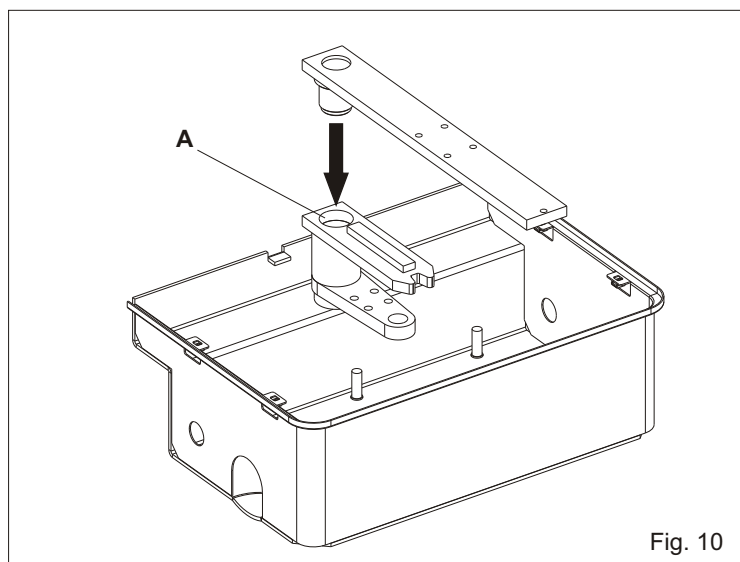

Fig. 10
2.6. Grease plentifully the hole A and insert the leaf device (Fig. 10)